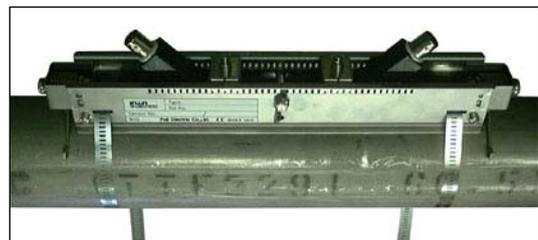

Fig. 3-11
- (3) Then insert the sensor unit into the frame, align the slit provided on the pressing fixture of the sensor unit with graduations located on the frame top surface (see Fig. 3-10), and press the sensor unit until the fixture claws are engaged with the frame side square holes. Mount both sensor units so as to be roughly symmetrical with respect to the frame (see Fig. 3-11).